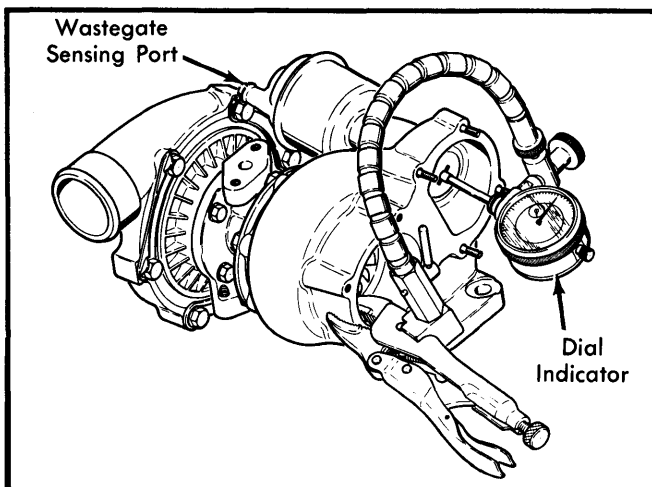

Fig. 4 Wastegate Functional Check
1) Remove wastegate cover bolts, cover and gasket. Install dial indicator so plunger rests against face of wastegate valve. Zero dial indicator. See Fig. 4.